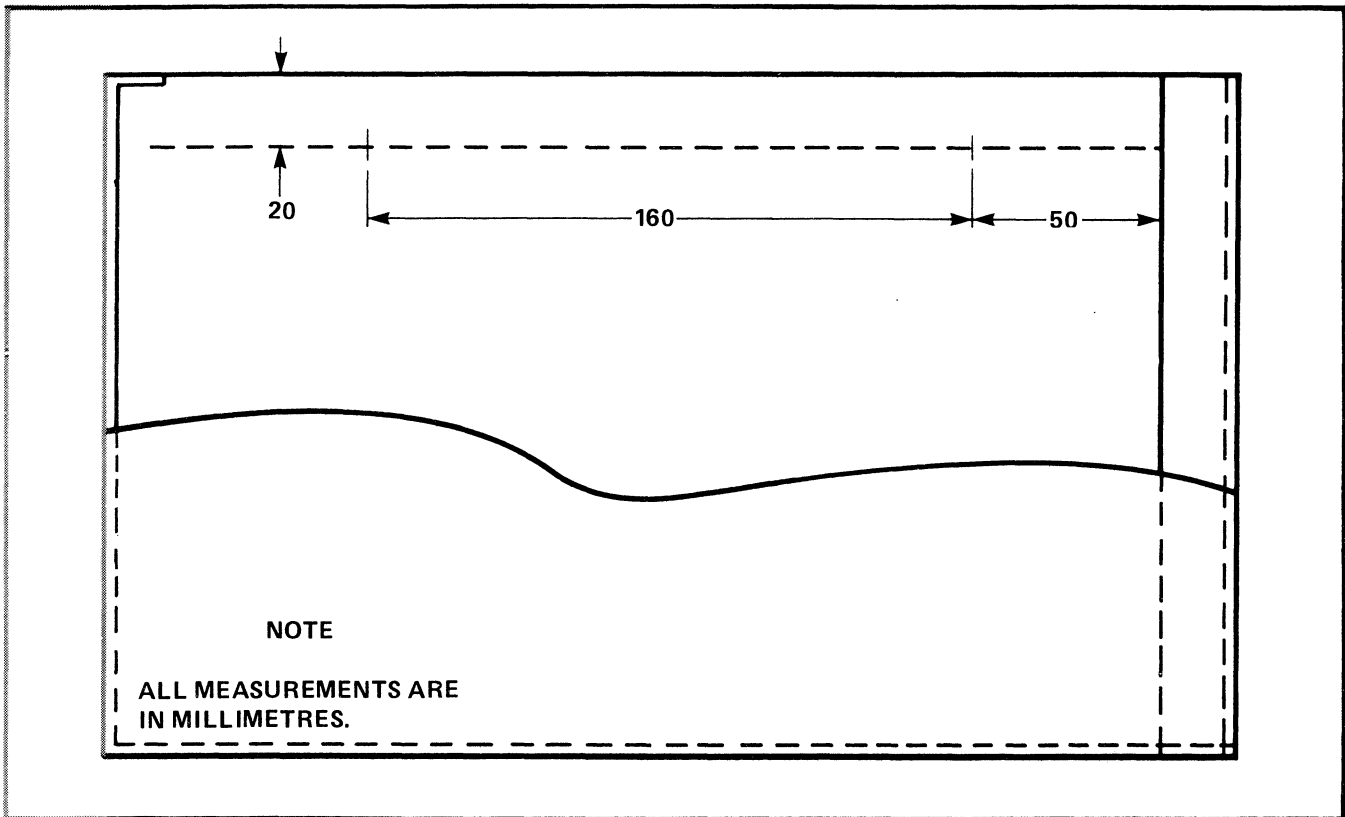
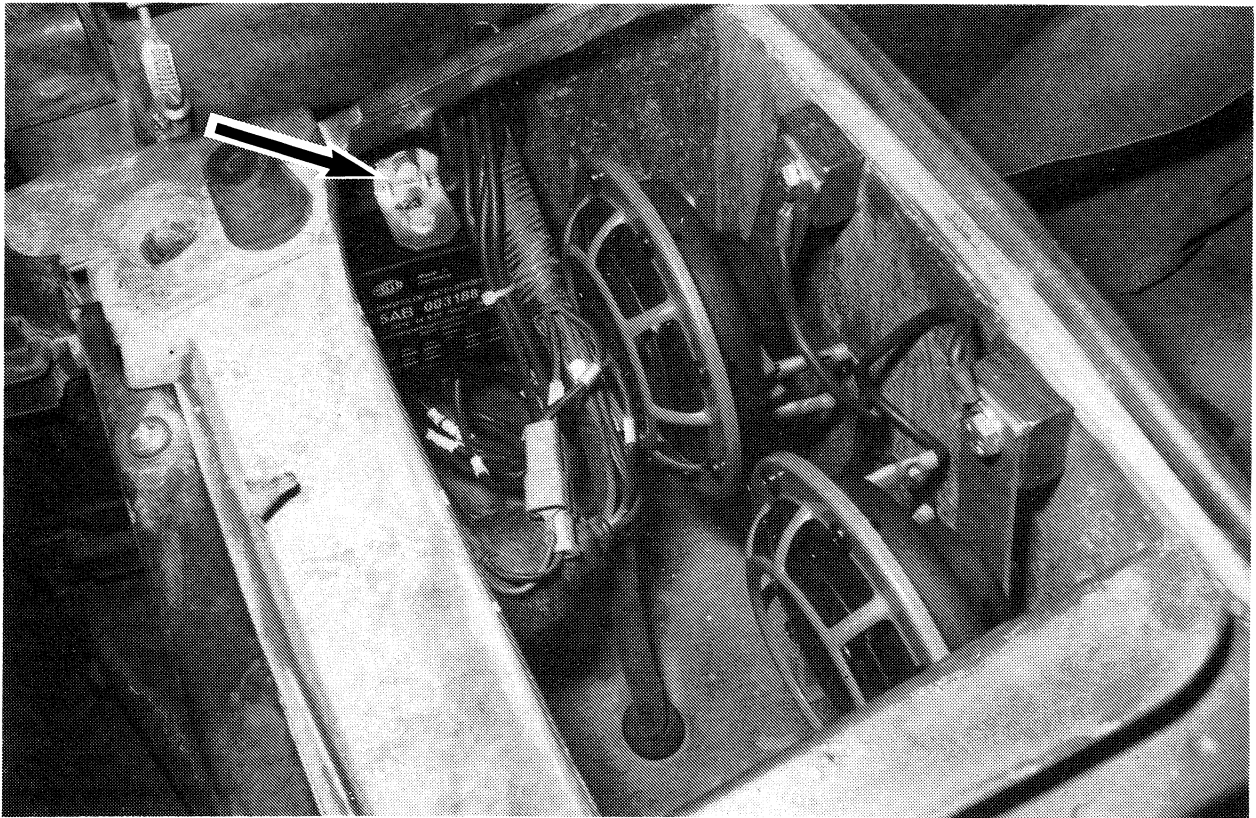
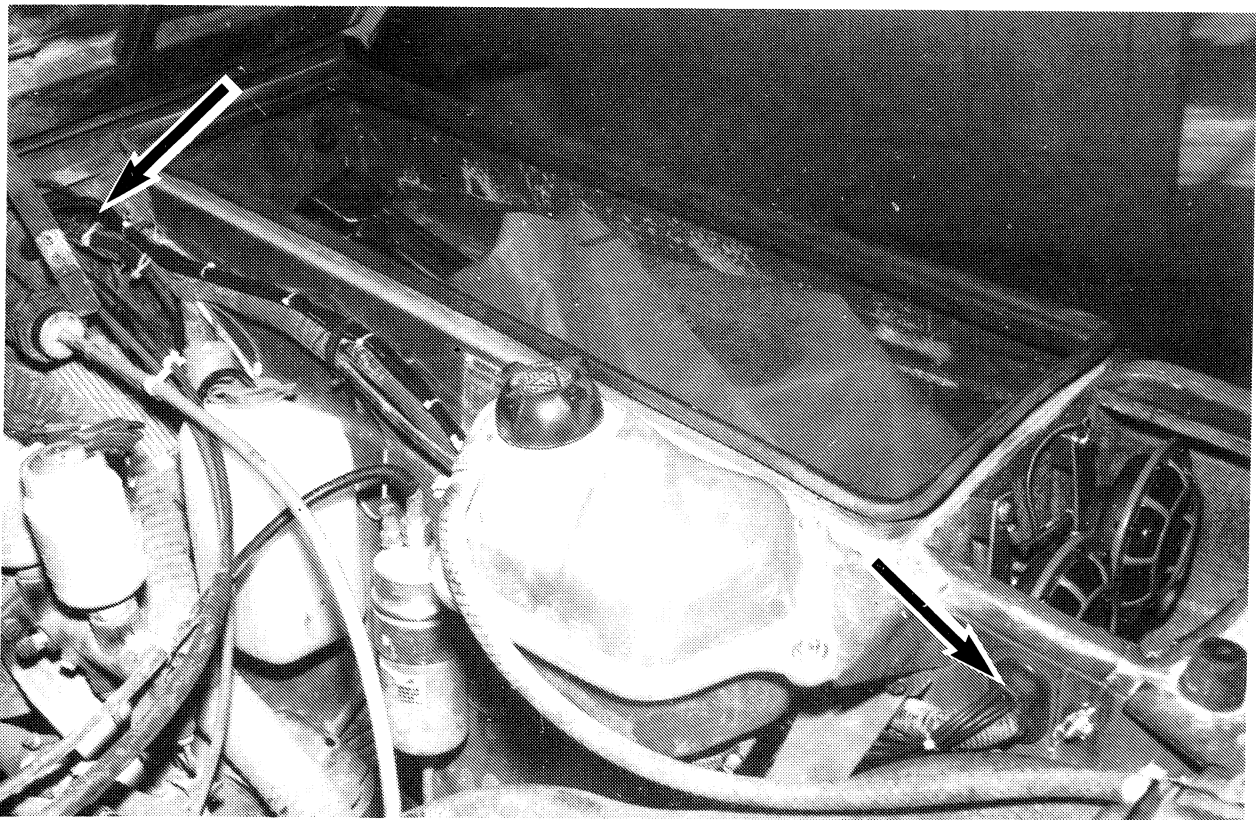

Figure 7 Measuring and Drilling Siren Mounting Holes
Figure 8 Sirens Installed in Headlight Compartment
Figure 9 Installation of Wiring
17. The two sirens (4) are installed in the vehicle left side headlight compartment. To install the sirens, proceed as follows:
- a. See Figure 7. Measure and scribe the two hole locations on the rear inner wall inside the headlight compartment.
- c. On a screw (21), assemble an internal tooth washer (23) and ground wire 71a. Insert the assembled screw through the low tone siren (4) mounting bracket and fit a spacer (7).
- d. With the siren down in the compartment, install the assembled screw through the outer drilled hole and secure using a second internal tooth washer (23) and self-locking nut (22).
- f. Install the second siren as in subparagraphs c, d and e above, using the 71b ground wire and high tone siren (4).
- g. Figure 8 shows installation of sirens.
- a. Gather the tone control unit terminal connectors (15) of assembled wires 71, 84, 84A, 84B and 86. From inside the vehicle, insert the terminal connectors and wires through the vehicle fire wall immediately beside the vehicle left front wiring harness; see arrows in Figure 9.
- k. Plug the terminals (15) of wires 71a and 71b into the corresponding numbered sockets in the tone control unit. Plug opposite end of wire 71a to the LOW siren terminal and of wire 71b to the HIGH siren terminal.
- m. On wire 88 plug the terminal (15) into socket 88 on the tone control unit. Install the control unit inside the headlight compartment (see arrow, Figure 8) to fit the existing screw hole on the engine compartment wall. Make sure the paint is cleaned from around the screw hole.
- n. Install an internal tooth washer (26) and the ground wire 88 on screw (24). Fit the screw through the control unit mounting bracket and secure to the engine compartment wall using a second internal tooth washer (26) and self-locking nut (25).
- p. Gather the five wires which run along the light harness in the engine compartment and tie them together every 3 or 4 inches using the tie-down straps (8) (see Figure 9). Also secure the installed wiring under the dash as necessary.